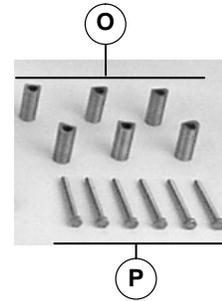

Figure 4
- Additional components (Figure 4) required for certain stands. See “Stand Height Chart” for specific models.